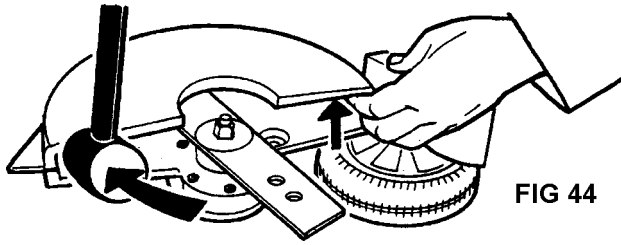

FIG 44
1. Remove blade cover lid by lifting and tapping in a clockwise direction (Fig. 44)